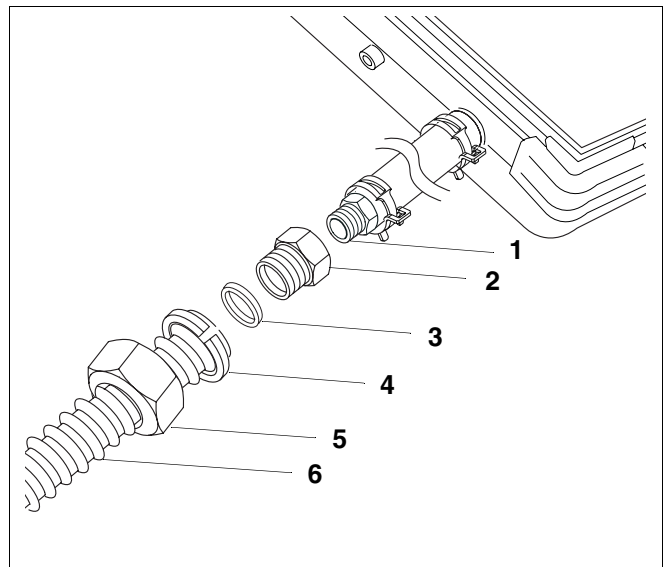

Fig. 4 Install the corrugated stainless steel hose on the return.
- Thread the reducer Rp $\frac{3}{4}$  × R1 (Fig. 4, **item 2**) onto hose nipple Rp $\frac{3}{4}$  (Fig. 4, **item 1**).
- Insert the gasket (Fig. 4, **item 3**) into the pre-assembled union nut Rp1 (Fig. 4, **item 5**).
- On the corrugated stainless steel hose thread the (Fig. 4, **item 6**) pre-assembled union nut Rp1 (Fig. 4, **item 5**) onto the reducer Rp $\frac{3}{4}$  × R1 (Fig. 4, **item 2**).